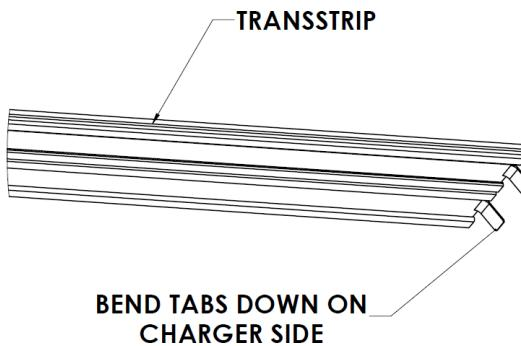

Figure 33: ***Bend the Male Terminal Tabs Approximately 45°***
e. Use pliers to bend the male terminal tabs approximately 45° (Figure 33).